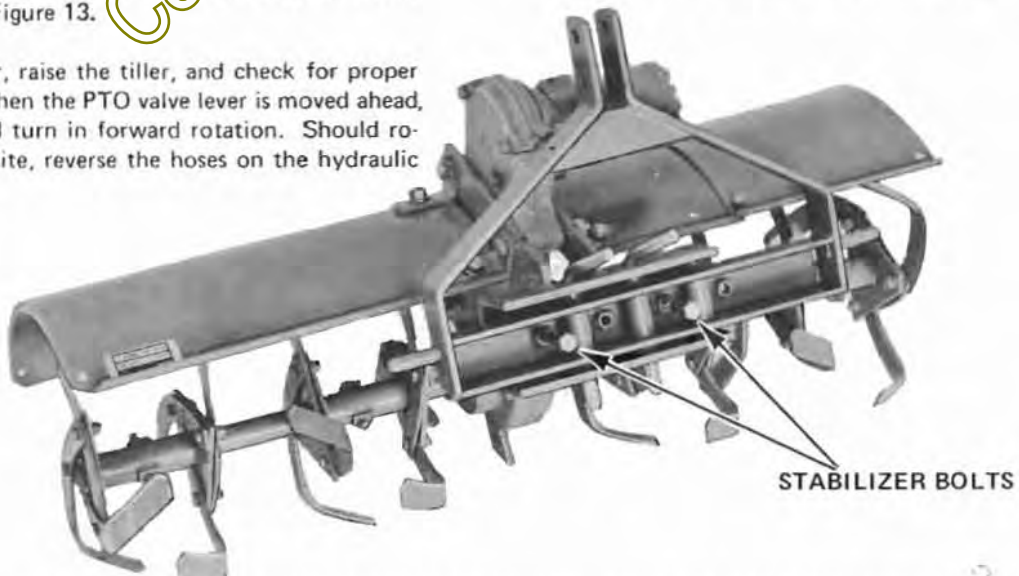

FIGURE 14 TILLER AND F 27 SLEEVE ADAPTER SHOW MOUNTED OFFSET 3 INCHES TO THE RIGHT.
3. Tighten the two stabilizer bolts through the hitch and against the tiller mounting bracket. See Figure 14.